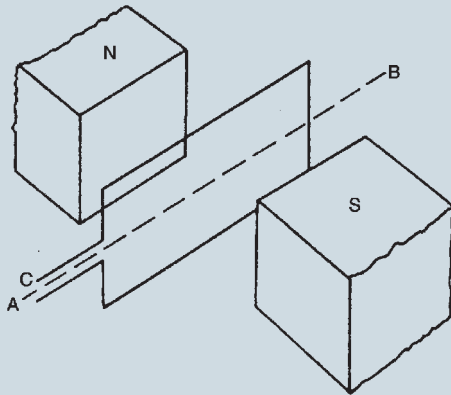

Figure 10.21
5. Fig. 10.21 shows a rectangular coil of wire placed in a magnetic field and free to rotate about axis AB . If the current flows into the coil at C , the coil will: